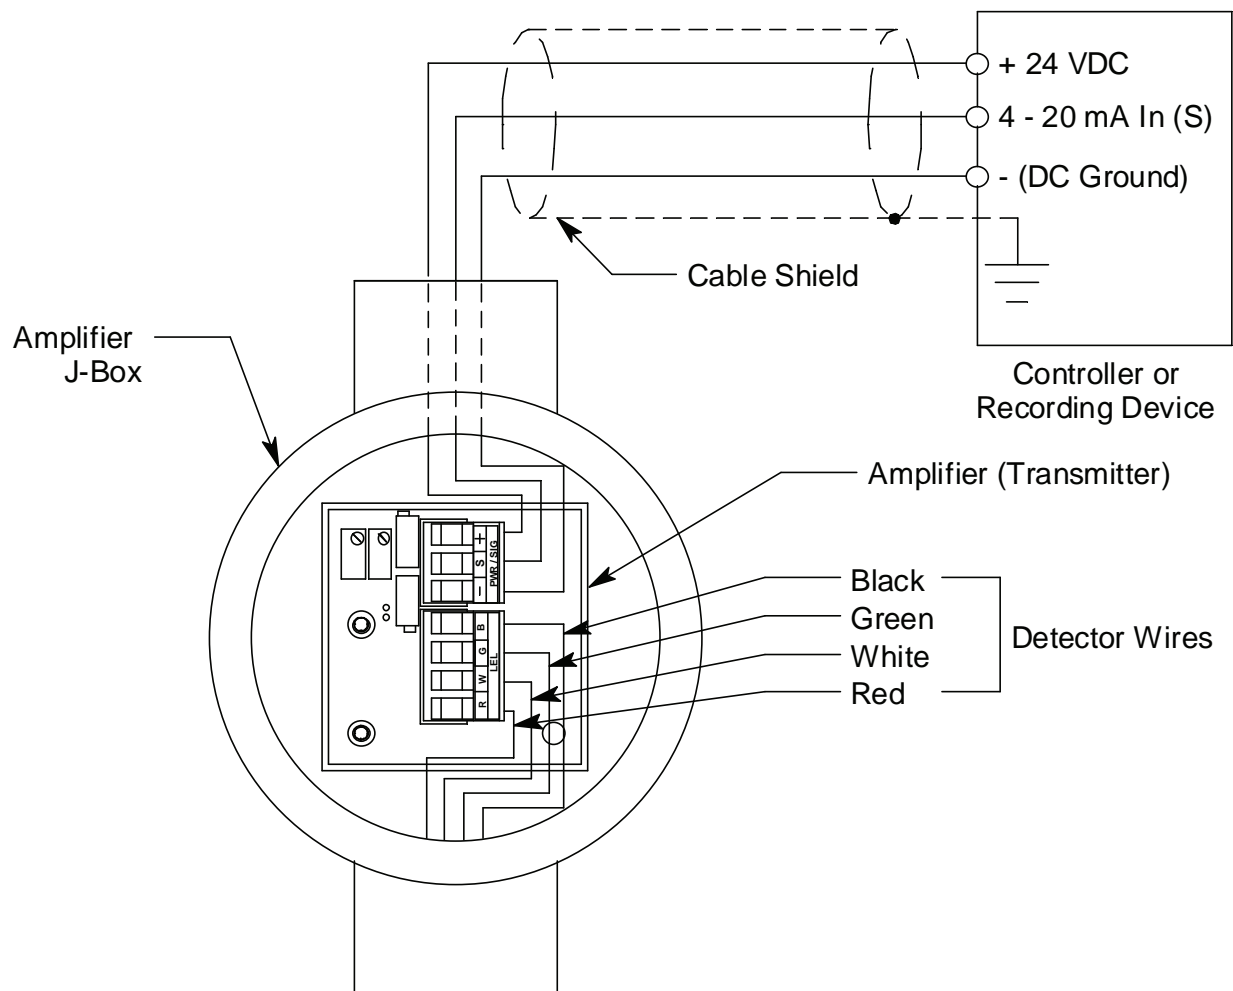

Figure 4: Wiring the Amplifier to a Controller
5. Pull out the controller terminal strip, and connect the three wires to the terminal strip as follows (see Figure 4).
9. Connect the wires to the applicable detector/transmitter terminal strip at the controller as shown in Figure 4.